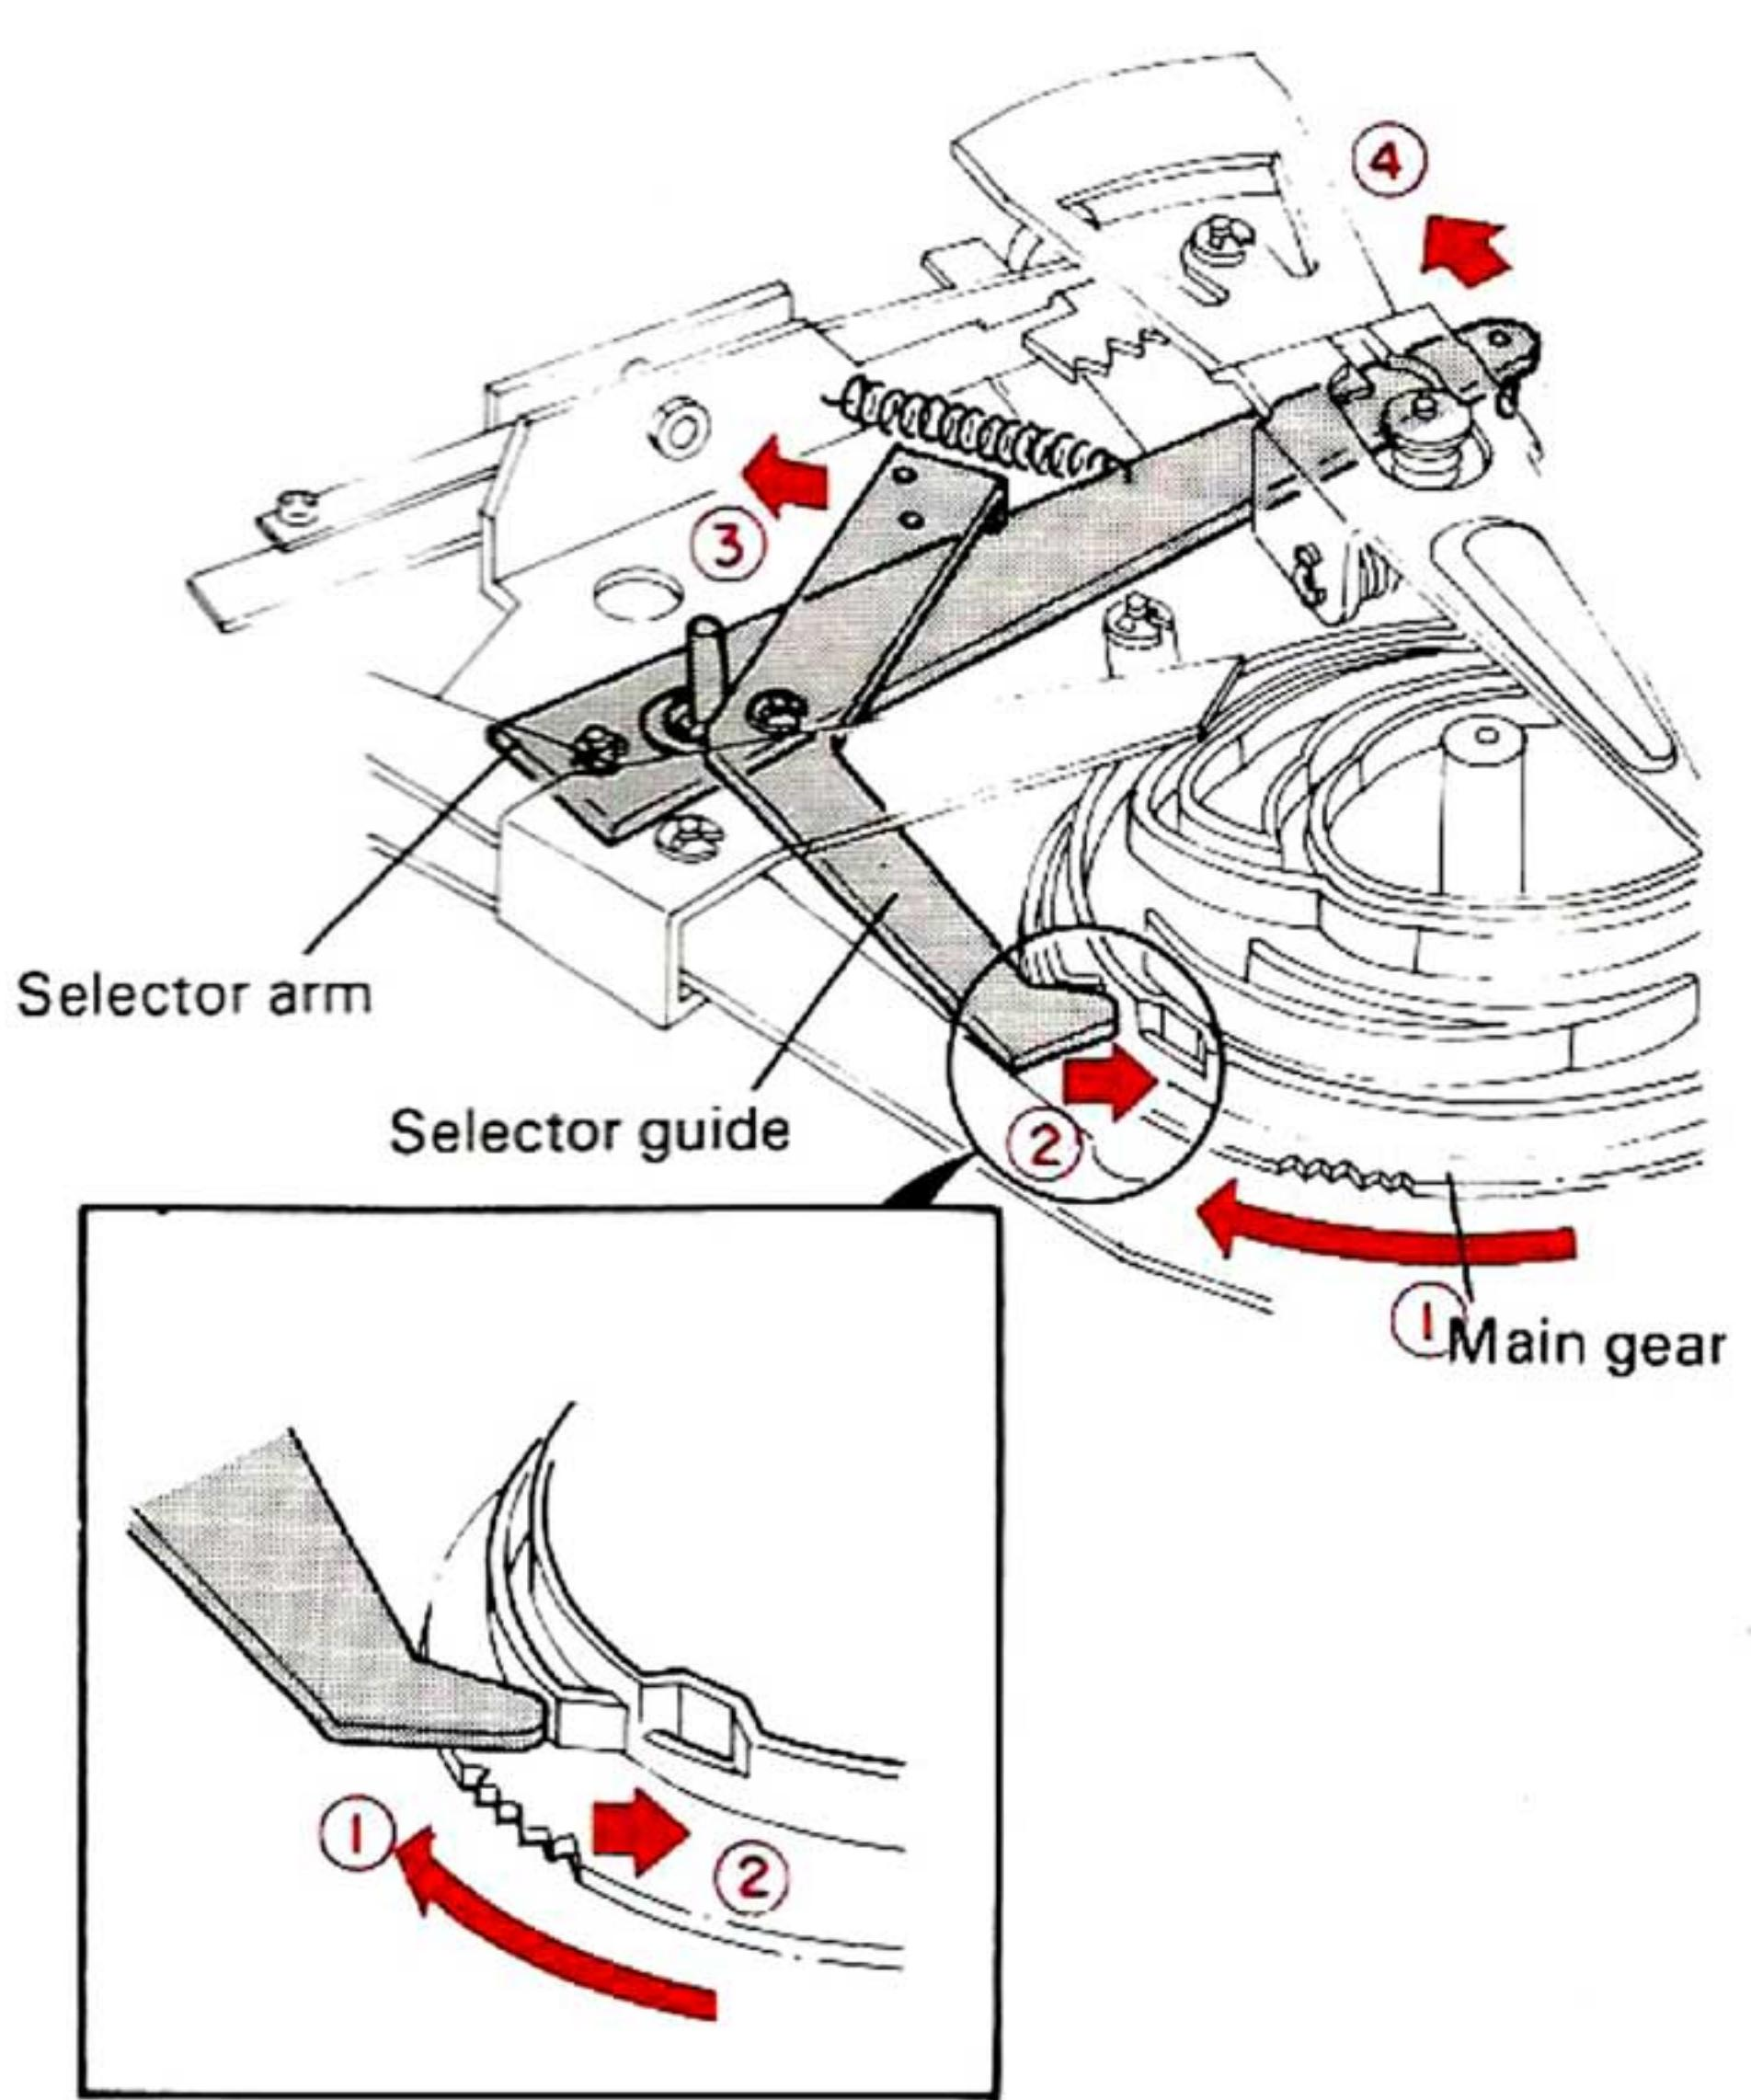

Fig. 15 Return of Selector guide and Selector arm
When the outermost end of the main gear comes to the position of the selector guide (in direction ①), the selector guide moves in directions ② and ③, so that the selector arm is drawn in direction ④ by the spring and the selector arm returns to its original position (Fig. 15).